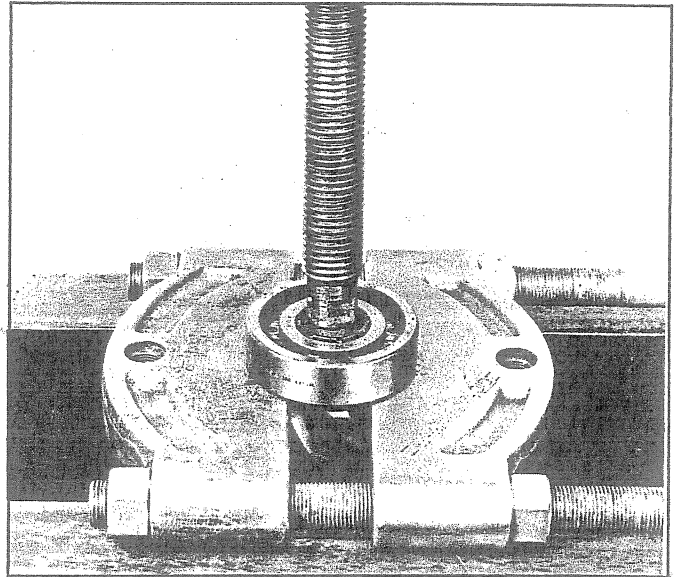

Fig. 53 - Pressing Inner Bearing from Pinion Shaft
10. Press inner bearing from pinion shaft as shown in Fig. 53.